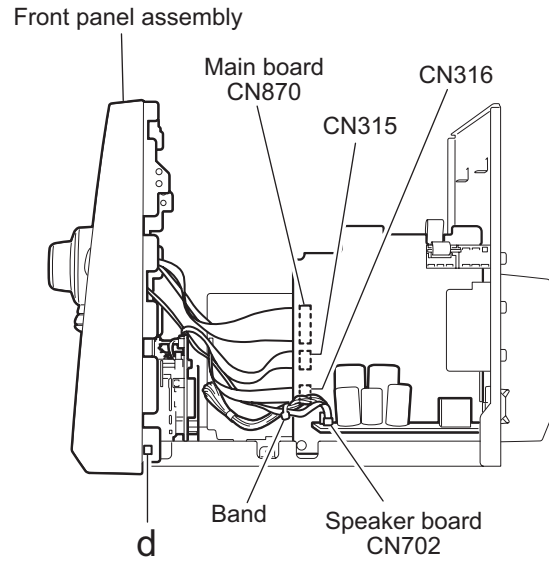

Fig.14
3.1.6 Removing the front panel assembly (See Fig.14~16)